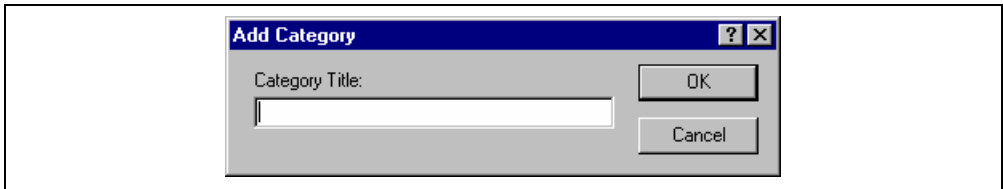

Figure 4.11: Add Category Dialog
3. Click “Add...” underneath the tree. The “Add Category” dialog box will be displayed (figure 4.11). Enter the name of the keyword group in the “Category Title” field, then click “OK” to create the new keyword group.